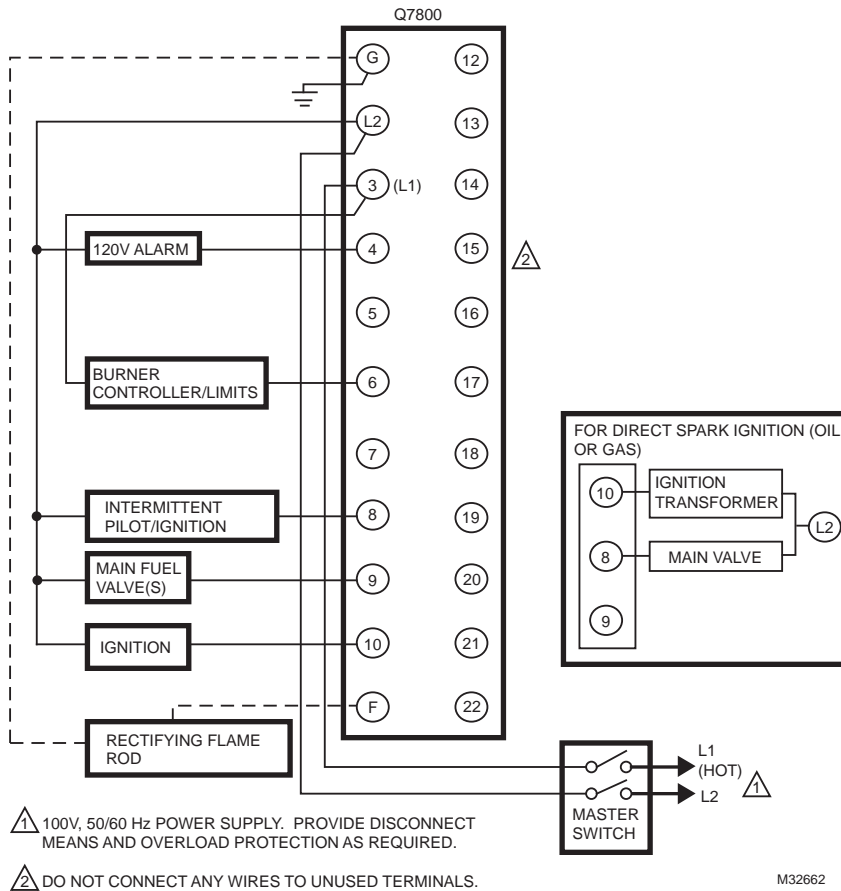

Fig. 5. Wiring the RM7890 Relay Module.
1. For proper subbase wiring, refer to Fig. 5 and 6.